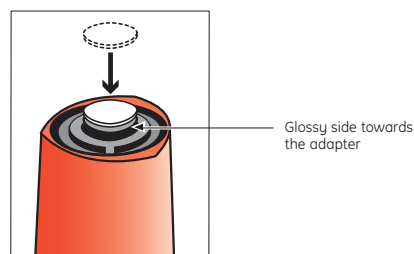

Fig 3. Placing the top coarse filter at the center of the adapter.
3. Place the top coarse filter at the center of the adapter (Fig. 3) with the glossy side towards the adapter.